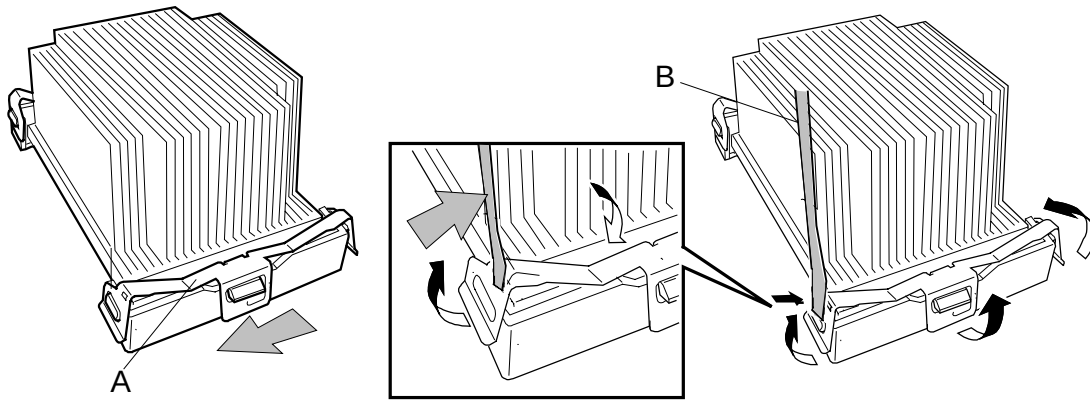

Figure 4-18. Releasing the Heat Sink Clip
- Slide one of the two heat sink clips to one side to partially release tension of the clip over the tab. See Figure 4-18, A. Depending on the tension of the clip, very little motion may be felt.
- Insert a flat blade screwdriver or the provided tool (Figure 4-18, B) into the slot at the end of the heat sink clip.
- Using your thumb, press down on this end of the clip until it clears the bottom edge of the tab on the retention module and rotate the screwdriver as shown in Figure 4-18 until the end of the clip is free of the tab.